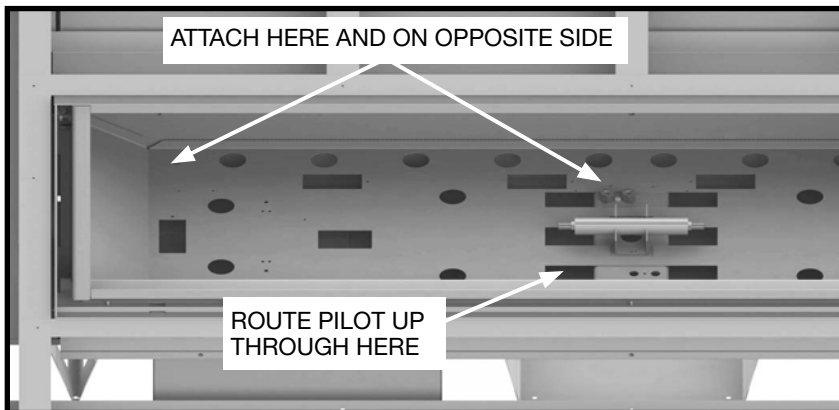
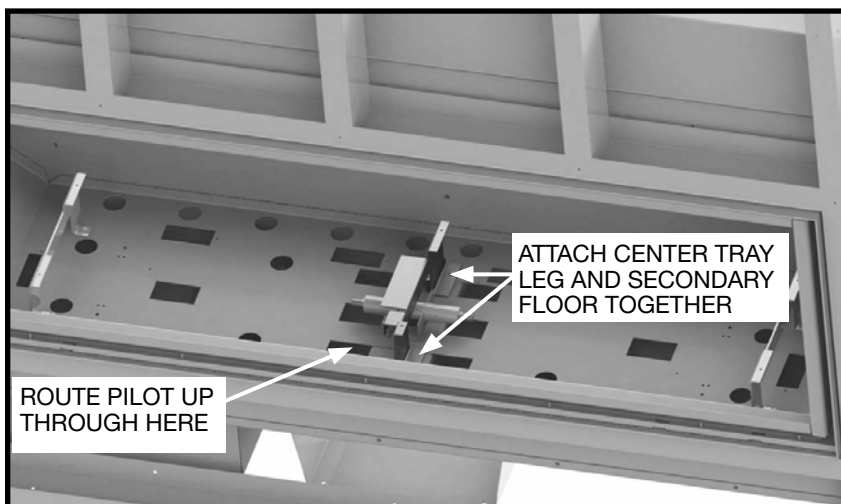

Figure 41: ngo4 Secondary floor installation.
Figure 42: ngo4 Tray leg installation.
1. Install one side of the secondary floor as shown. Repeat with the other side but do not put in the two center screws until you put the center tray leg in place (Figure 41 and Figure 42).
2. Attach tray legs as shown in Figure 42. The center tray leg and the right side of the secondary floor are attached with the same screws to the center floor leg.